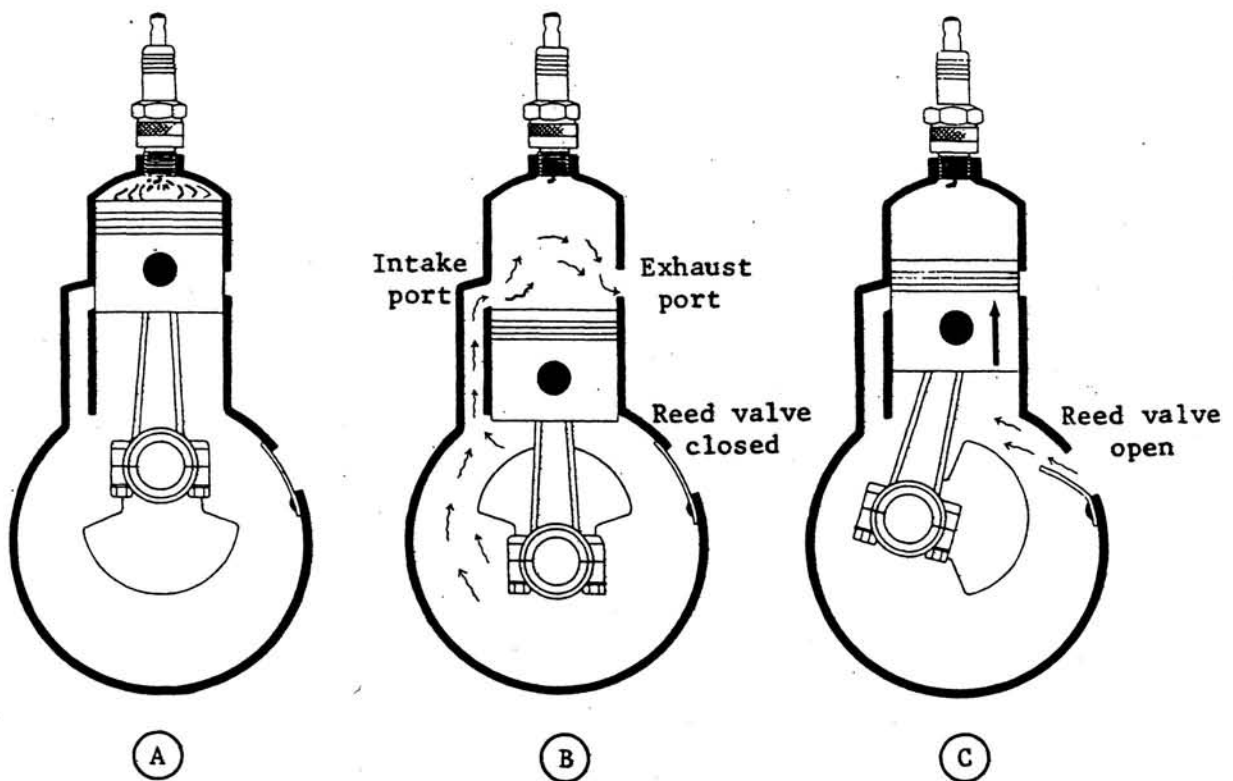

Figure 10. Two-stroke cycle engine operation
In the operation of a two-stroke cycle engine--commonly called a two-cycle engine--when the fuel charge is ignited, downward travel of the piston uncovers the exhaust port first and then the intake port ("A" and "B" of figure 10). The piston also compresses the fuel mixture in the crankcase as it moves downward. The resulting pressure closes the reed valve, and forces the fuel mixture inside the crankcase, through
the intake port, and into the combustion chamber as shown in "B" of figure 10. This incoming fuel helps force the exhaust gases out the exhaust port. As the piston moves upward, it covers the intake and exhaust ports and compresses the fuel mixture in the combustion chamber as shown in "C" of figure 10. At the same time, the pump-like action of the piston moving up in the cylinder creates a vacuum in the crankcase. Due to the lower pressure in the crankcase, the reed valve opens and a new fuel charge is drawn into the crankcase from the carburetor. The cycle is then repeated with two strokes in each cycle. The same five events that occur in the four-stroke cycle engine take place during the two strokes of the two-stroke cycle engine. They are: (1) intake, (2) compression, (3) ignition, (4) power, and (5) exhaust. However, the exhaust and intake events overlap and occur at approximately the